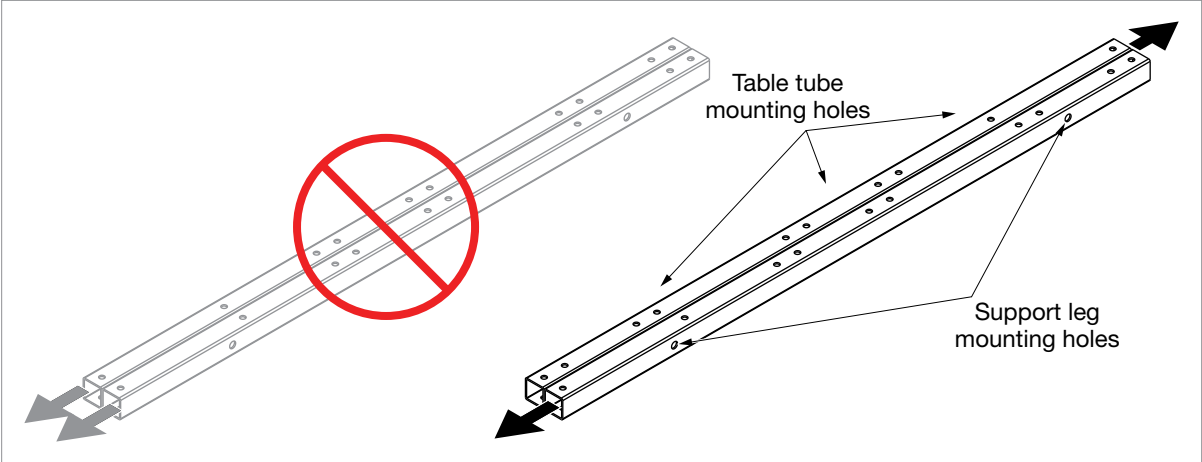

Fig. 17
- 12** Place the four table support tubes (B) on the floor behind your table saw and align them as shown in Fig. 17. In order to align the table support tubes, place two tubes next to each other, with the ten table tube mounting holes on the top and bottom and the two support leg mounting holes on the sides.